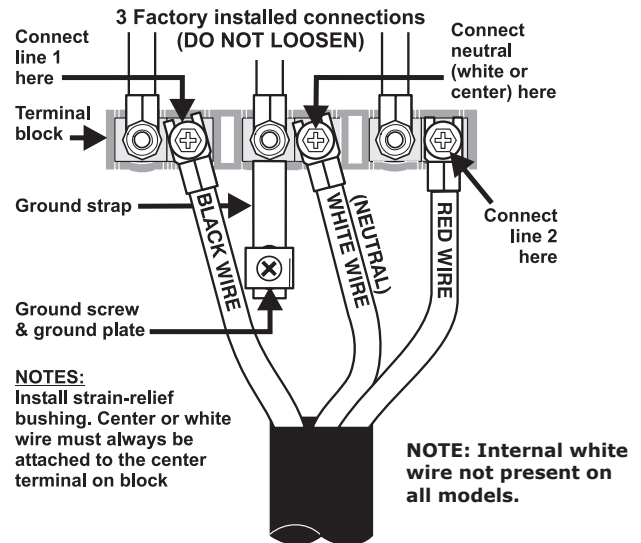

Fig. 13
(3-Wire Connection Instructions . For existing installations ONLY - Refer to Fig. 13).
2. Insert the end connectors for Line 1, Line 2 and Neutral and tighten securely to the terminal block (See Fig. 13).
A ground strap is installed on this range which connects the center terminal of the terminal block (Neutral) to the range chassis. The ground strap is connected to the range by the center, lowest screw (See Fig. 13). The ground strap must not be removed unless National, State or Local Codes do not permit use of a ground strap.